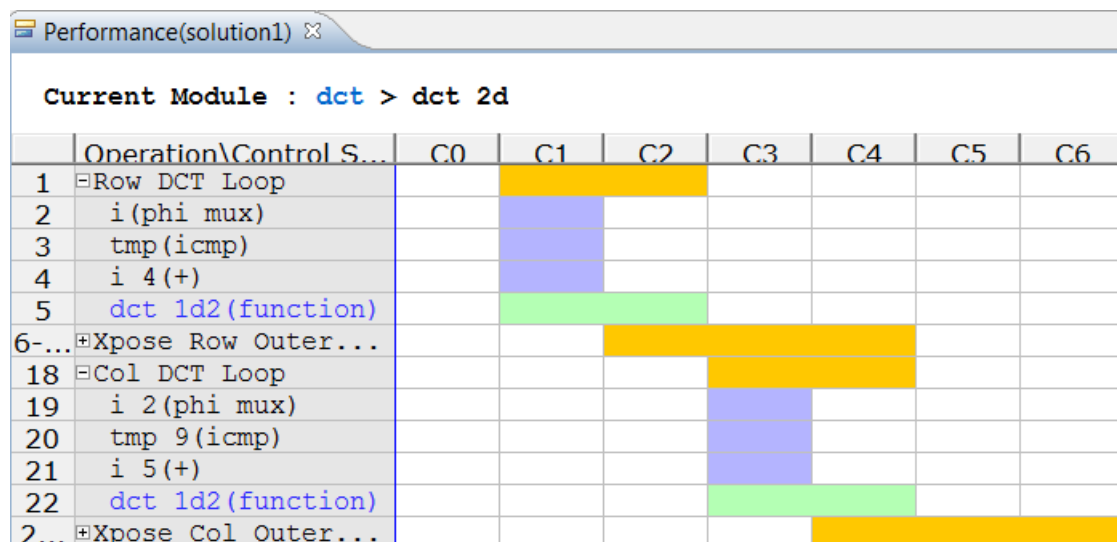

Figure 6-11: DCT_2D Performance View
6. In the Module Hierarchy pane, click the function **dct_2d** to navigate into the view for this function (Figure 6-11).
In the Performance Profile you can see that the latency of all the loops has been substantially reduced (Row_DCT_Loop and Col_DCT_loop have been approximately halved from the earlier report in Figure 6-11). However, the majority of the latency is still due to these two loops, each of which calls the `dct_1d` block.